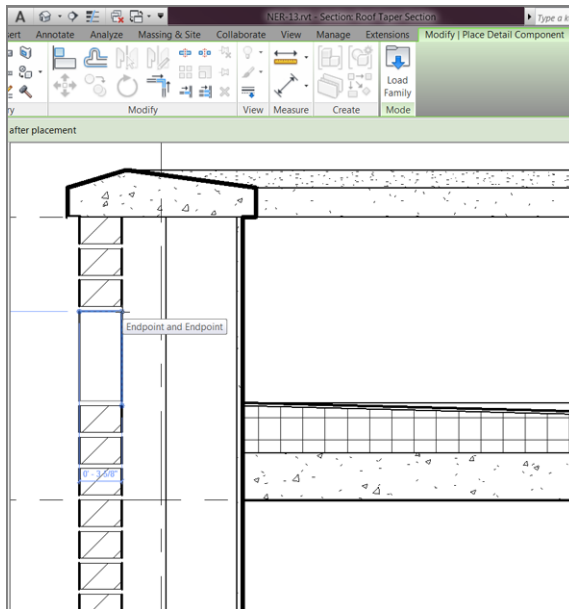

FIGURE 12.15: Placing the new detail component
3. Press the spacebar until it's flipped as shown in Figure 12.15, and place the new detail component into the model as shown.